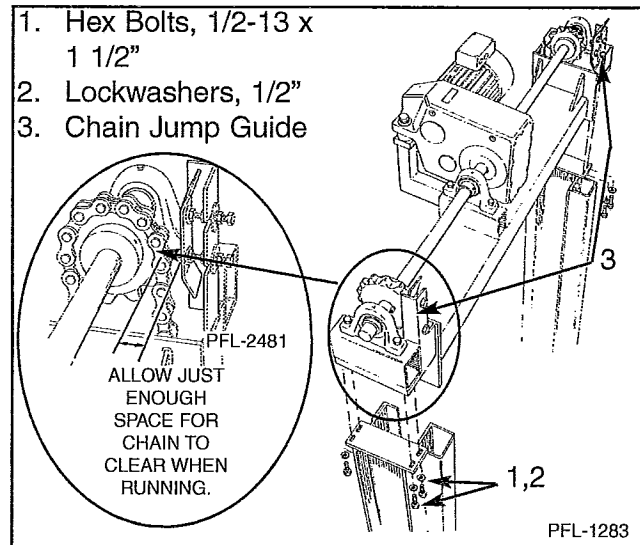
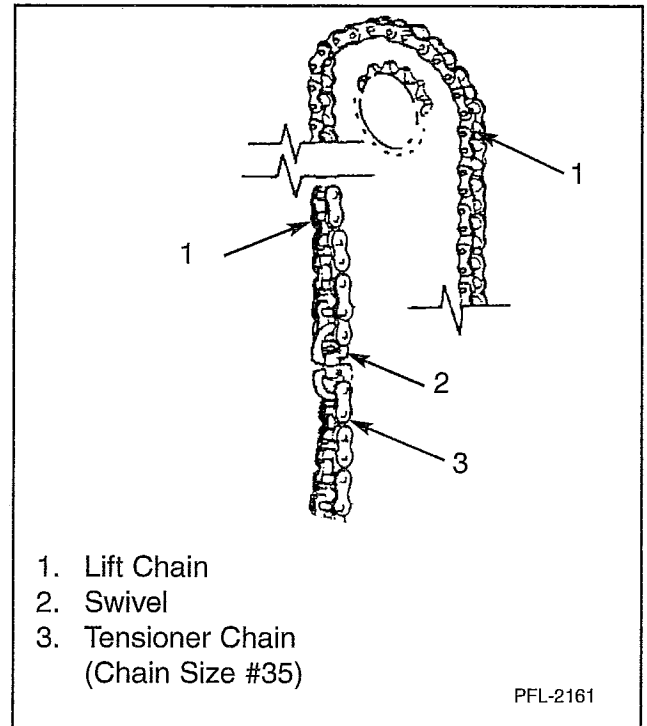

Figure 12
Figure 18
8. Make sure columns are well secured. Raise drive base into position and place over the top of the columns aligning it with the mounting pads at the top of the columns. See Figure 12.
9. Install bolts as illustrated. Snug bolts down. (Tighten enough to allow for adjustment.) See Figure 12.
6. Tighten hex bolts on drive base. See Figure 12.
7. Remove chain jump guide. See Figure 12. Take a 10' section of the lift chain (larger chain) and install it over the sprocket on the column so that the end of the chain is just above the chain tube at the back of the column. At this time, adjust the sprocket so the chain goes down the center of the chain tube. Take the #35 chain and divide it equally into two sections (one for each column). Mount the swivel to one end of the #35 chain using the masterlink. See Figure 18.
3. Reinstall chain jump guides. See Figure 12. If chain rubs on the guides, adjust.